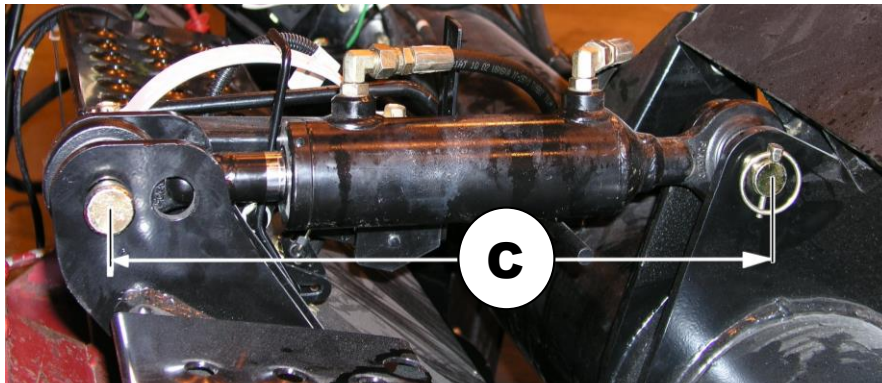

Fig. 2 Center Link Dimension
- It is recommended to set float for most conditions with the center cylinder set to dimension (C) shown in Fig. 2. Pin to pin length of 490mm (19.5"). Some adapters (depending on combine) will use the front most hole in adapter but measurement will be the same.